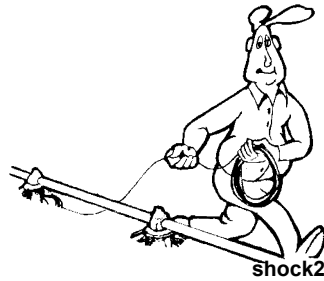

Figure 49. Unrolling the Cable
1. Unroll the bulk anti-roost cable. Note: If the cable is unrolled as shown in **Figure 49**, taking 5 loops of the coil with one hand, then changing hands to remove 5 loops as it is unrolled, it will lie flat during installation.